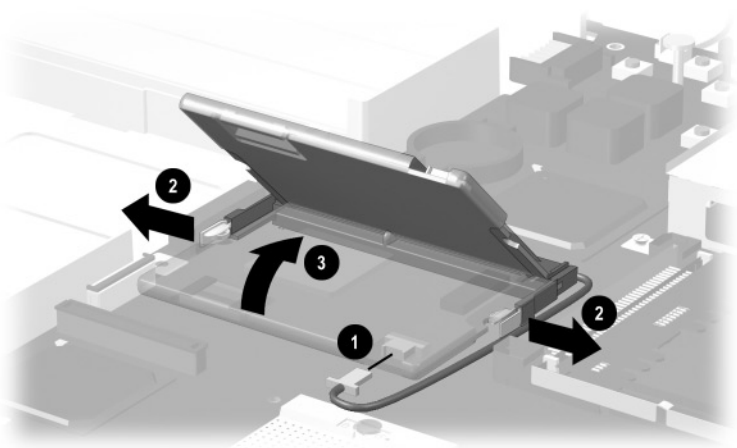

Figure 5-23. Removing the Mini PCI Communications Board
2. Disconnect the communications cable from the mini PCI communications board ❶ (Figure 5-23).
3. Spread the retaining tabs to release the mini PCI communications board ❷.